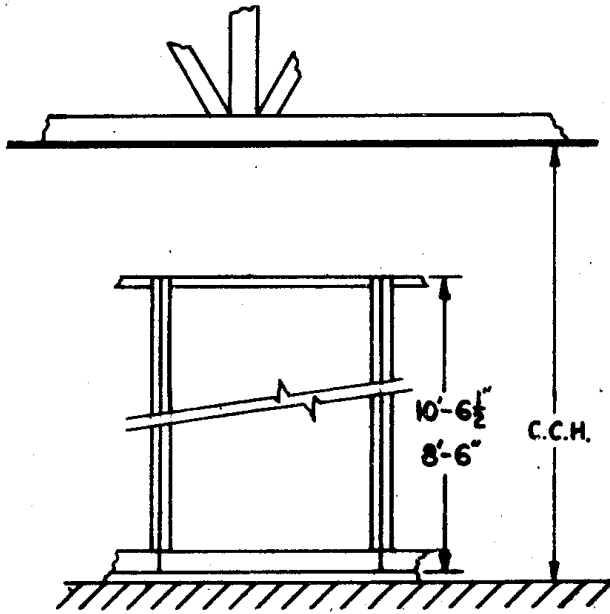

FIG. 1. 2000 TYPE EQUIPMENT.
- 2.1 Standard ceiling heights are shown in the attached Figs. 1, 2 and 3. However with the introduction of modified cabling practices it may be desirable to reduce the ceiling heights. These must be planned in collaboration with the Buildings Branch.